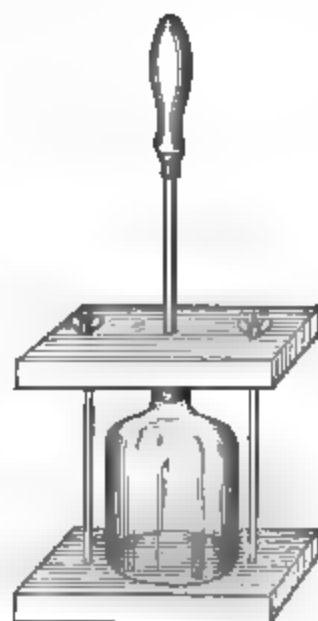

FIG. 43. — Water transmits pressure of piston.
50. Pressure transmitted by a liquid. Suppose we fill a bottle with water and close it with a one-hole rubber stopper. Then let us fasten the stopper securely, as shown in figure 43, and force into the hole a metal rod of such a size as to fit rather tightly. The force applied to the rod will be transmitted to the inner surface of the bottle, and the bottle will burst.